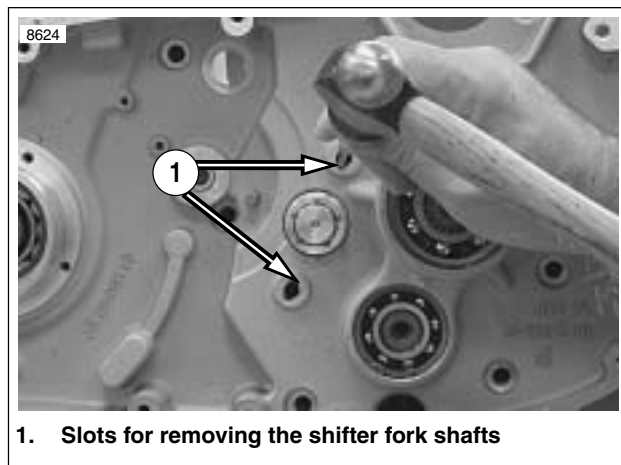

Figure 6-57. Removing Shifter Fork Shafts
1. See Figure 6-57. Remove shifter fork shafts.